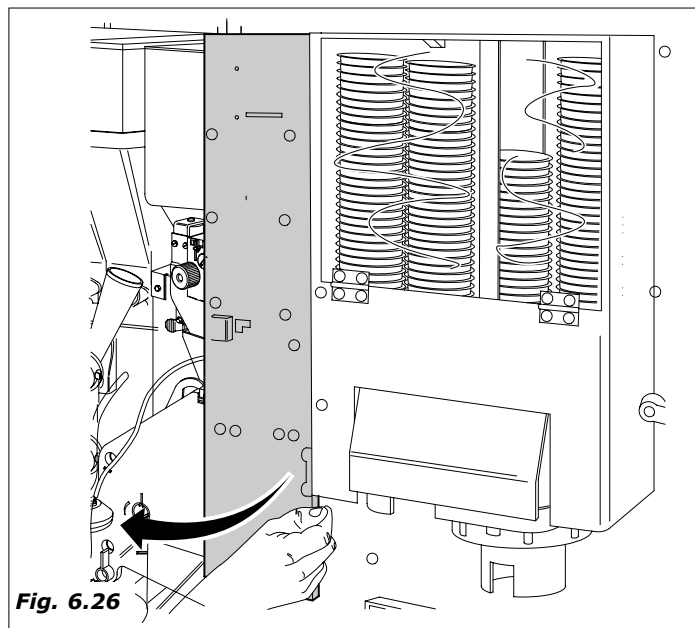

Fig. 6.26
- Open the Master card flap (Fig. 6.26)